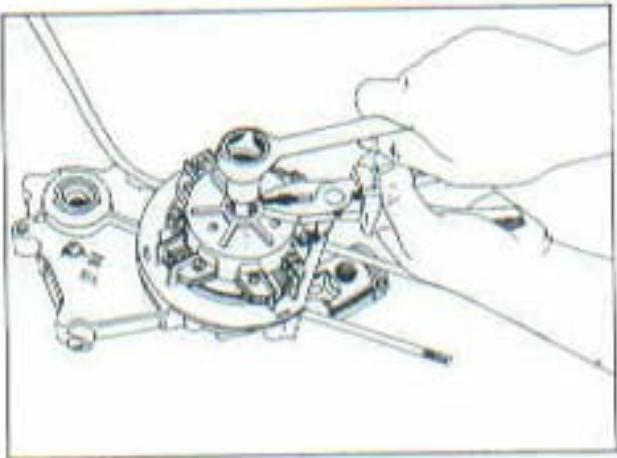

FIG. 20
- 2) With rotor puller, No. 928-6000-1.1, pull off the rotor (Fig. 20) and then loosen the lock pin.